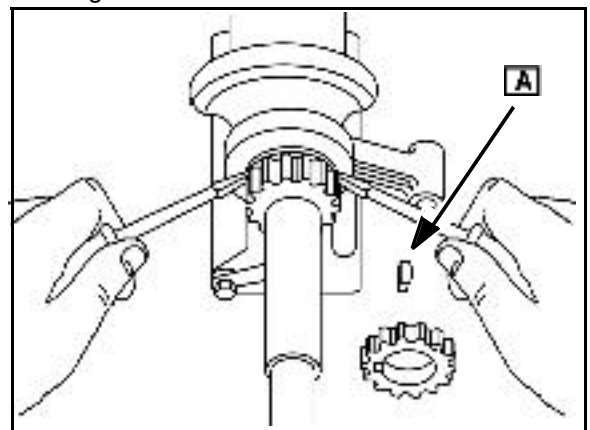

Fig. 17
5. Remove timing gear and woodruff key ([A] Fig. 17). If gear is tight, pry off with two screwdrivers being careful not to damage gear.